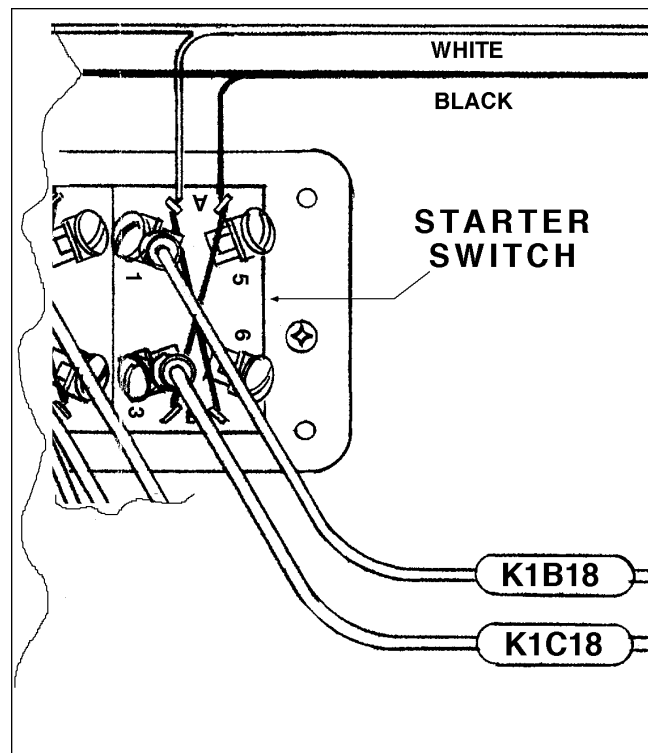
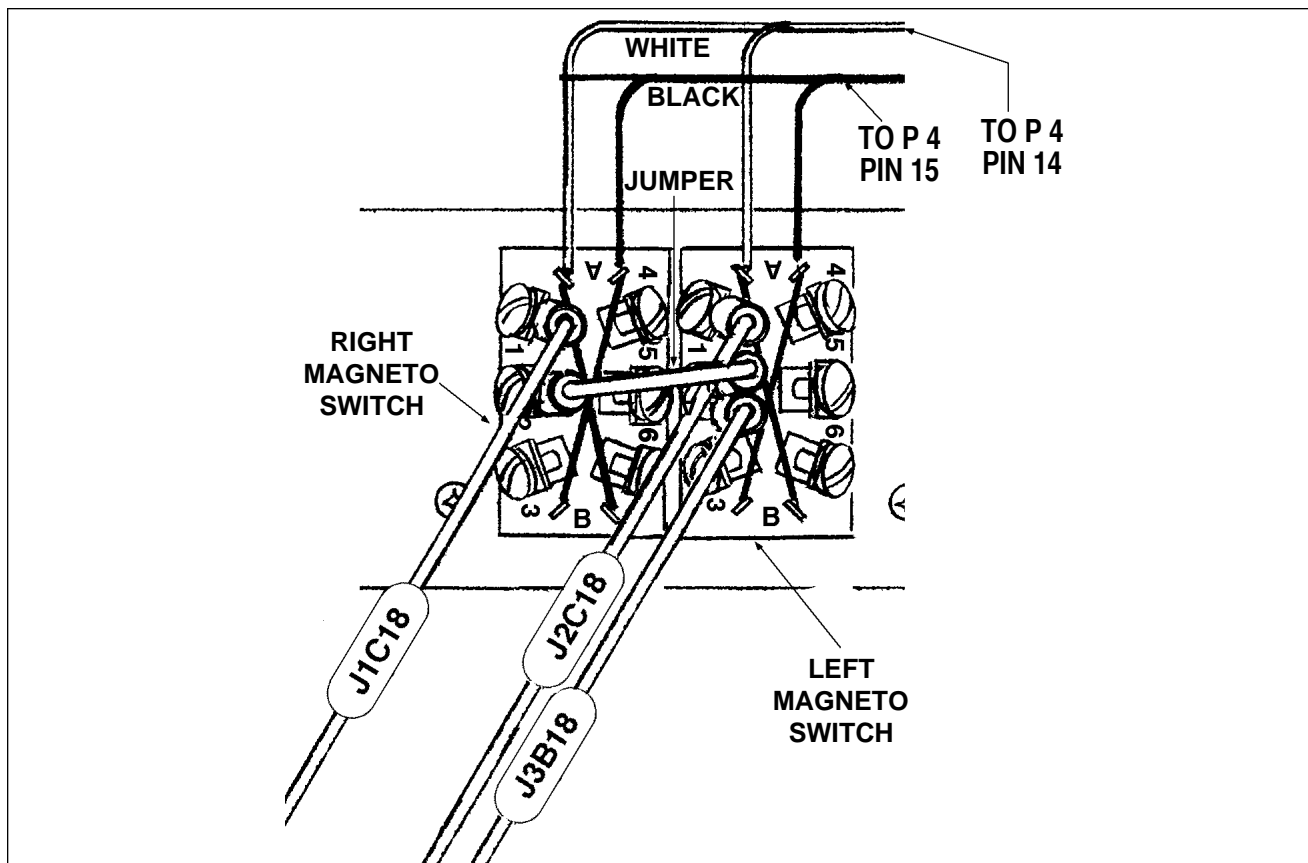

Figure 74-30. Archer III Starter Switch Installation
Figure 74-31. Archer III Magneto Switch(es) Installation
- (1) Make sure ignition switch is in OFF position.
- (2) Gain access to and disconnect power lead from battery.
- (3) Remove retaining nut from switch and pull switch from back of instrument panel.
- (4) Before removing wires from ignition switch note their location on switch.
b. Archer III — Removal of Starter Switch (Refer to Figure 74-30)
- (1) Check that ignition switch is in OFF position.
- (2) Disconnect (pull) STARTER & ACC. circuit breaker.
- (3) Disconnect positive cable from battery.
- (4) Drop the overhead switch panel by removing the six screws securing the panel in place.
c. Archer III — Removal of Magneto Switch(es) (Refer to Figure 74-31)
- (1) Solder the white and black wires to back of starter switch as shown in Figure 74-30.
- (2) Install wires K1B18 and K1C18 to screw connections on back side of starter switch as shown in Figure 74-30.
- (3) Check for proper operation of starter switch as follows:
- (4) Install starter switch in switch panel.
- (5) After ensuring all connectors are properly joined, install overhead switch panel by installing the six screws securing the panel in place.
- (6) Connect positive cable to battery.
- (7) Engage (push in) STARTER & ACC. circuit breaker.
c. Archer III — Installation of Magneto Switch(es) (Refer to Figure 74-31)
- (1) To install left magneto switch:
- (6) To install right magneto switch: